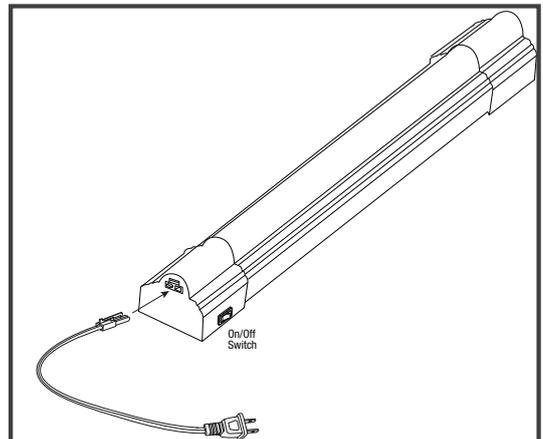

Figure 3
Step 4: Connect Power Cord: Connect 5' Power Cord to the fixture. See Figure 3. Plug in Power Cord to a 1.5A circuit grounded outlet. Light may be turned on or off using the toggle switch built into the cord. **Warning: Do not conceal power supply cord inside a wall, ceiling, soffit, kitchen cabinet, or similar permanent structure. Do not run the power supply cord through holes in walls, ceilings or floors.**